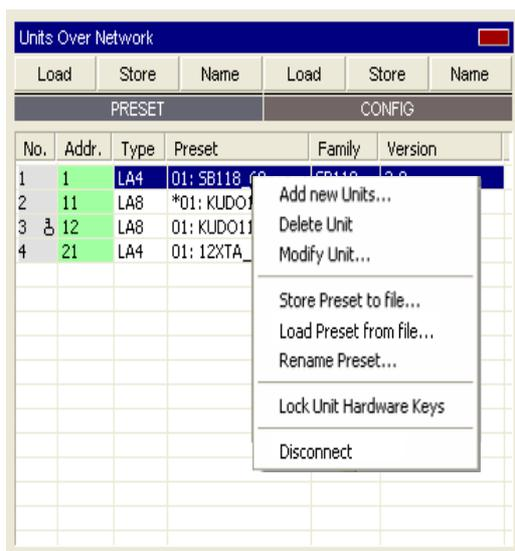

Figure 17: Right-clicking menu
- Right-click on a **unit** to display the **right-clicking** menu (see **unit 1** in Figure 17). All the selectable functions are described below.
**Note:** In Figure 17, the star sign (\*) displayed in the **Preset** cell of **unit 2** indicates that parameter settings have been modified from the original **preset** stored in memory. It is synchronized with the **physical unit's** LCD screen (refer to the **LA4 or LA8 User manual** [2.3]).
When a **unit** is locked a **key** is displayed in the corresponding **No.** cell (see **unit 3** in Figure 17).